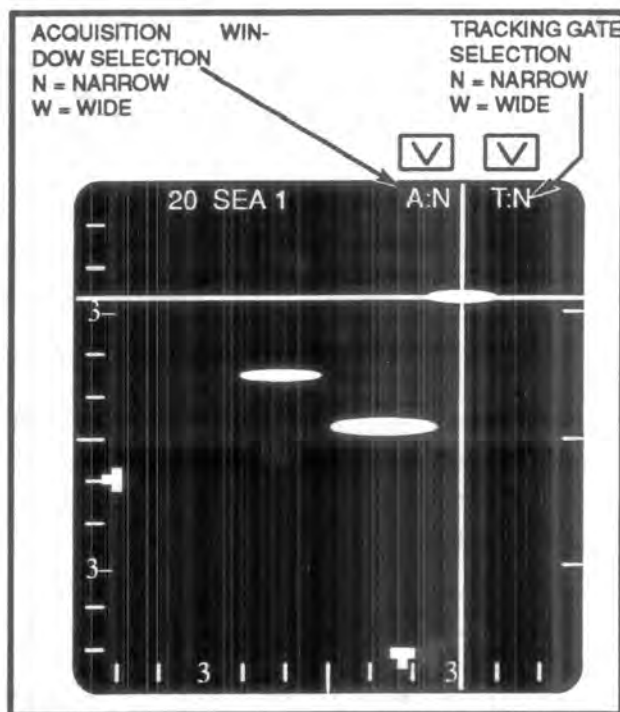

Figure 7-31 SEA 1 Mode Display
7.237 SEA 1/SEA 2 are B-Scan presented mapping modes designed specifically for detection of ships in sea clutter. SEA 1 is similar to GM but reduces the effects of background clutter. Frequency agility is used both in the SEA 1 mode and in the MTT mode to smooth the background clutter and enhance target visibility. SEA 2 is an MTI mapping mode which uses a clutter notch to reject background clutter. It can improve the detection capability of the radar in some situations at high altitudes and under very high sea states. A typical SEA 1 display is shown in Figure 7-31.